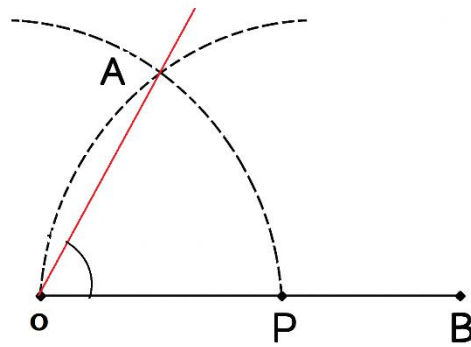

Fig. 1.21: Construction of Angle (Step 3)
Step 3: Place the compass pointer at P and mark an arc that passes through O and intersects the previous arc at a point, say A (Fig. 1.21).